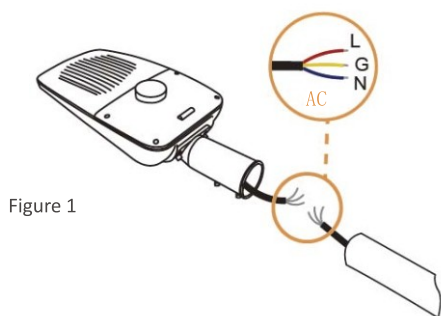

Figure 1
① Wiring, as shown in Figure 1.